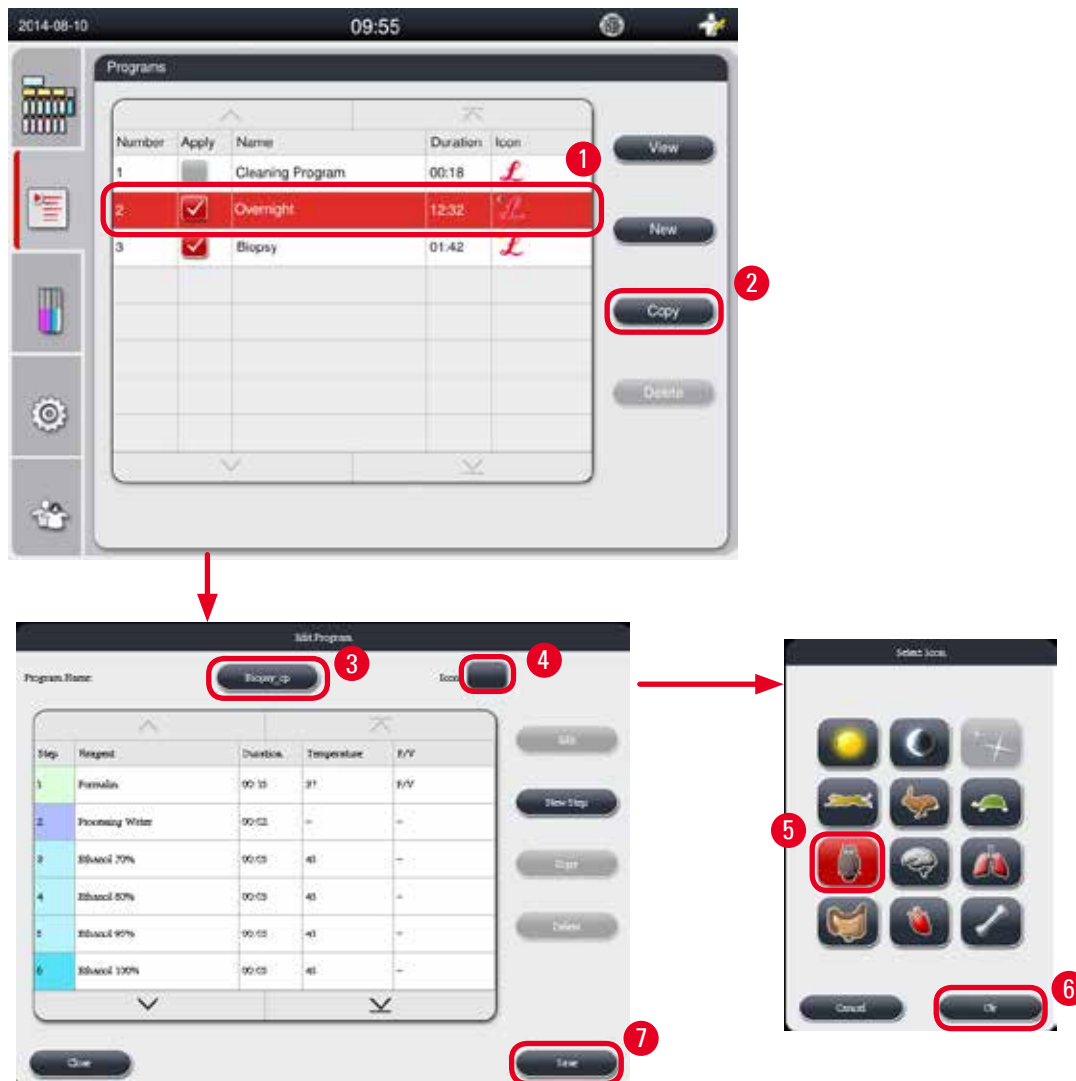

Fig. 52
- ① Make sure that no program is running.
- ① Make sure that the number of programs is less than 10.
- ① Only Supervisor and Service user level can create/edit/delete customized programs.
1. In the Program window (→ "Fig. 52"), select a program (→ "Fig. 52-1") as similar as possible to the program you wish to create. (This minimizes the number of editing steps).